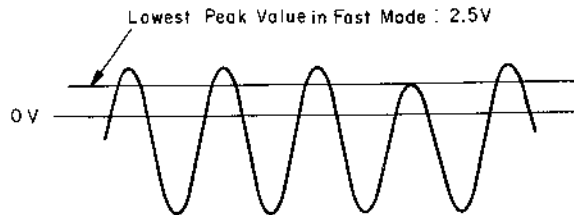

Fig. 4.7
- (e) Set the N-700ZXL in Fast (F.F. or Rewind) mode, then adjust VR506 on the Main Logic P.C.B. Ass'y so that the lowest plus peak value of waveforms does not lower than 2.5 V DC as shown in Fig. 4.7.